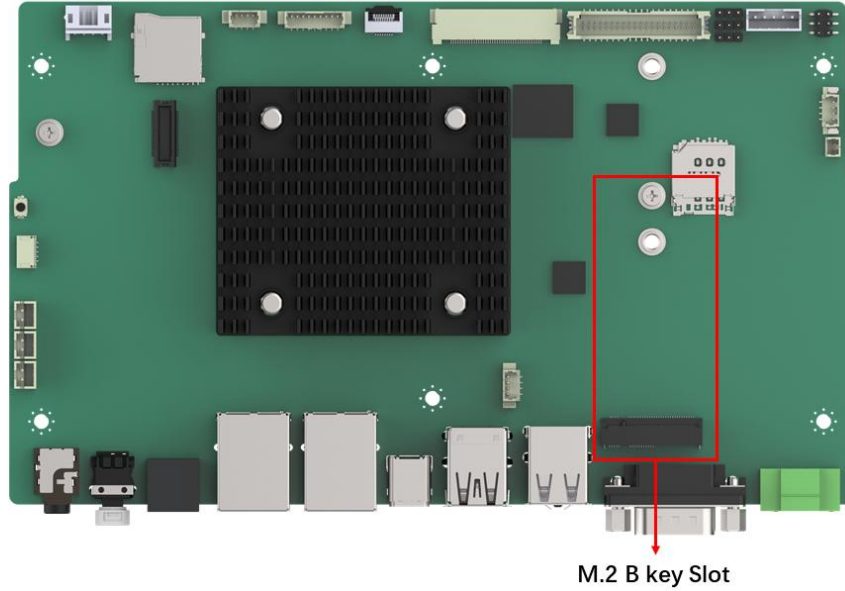

Figure 3-3: M.2 Slot Location
Step 2: Locate the M.2 card slot. Remove the preinstalled retention screw on the standoff of the M.2 card slot as shown in **Figure 3-3**.